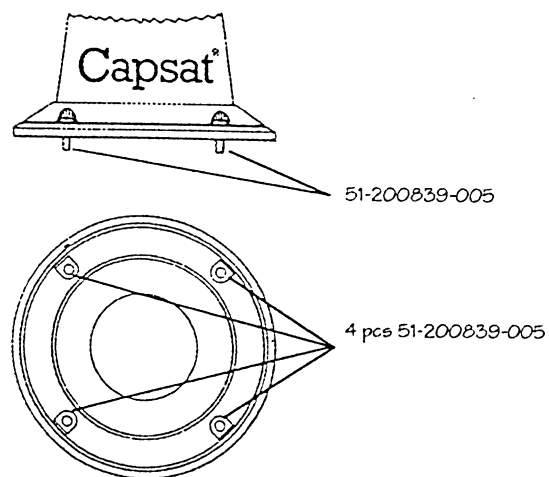

Figure 3.
2. Please locate the 4 screws (53-200839-005) fastening the plastic dome to the antenna cabinet and remove these with an Allen key, so you can remove the dome. See Figure 3.